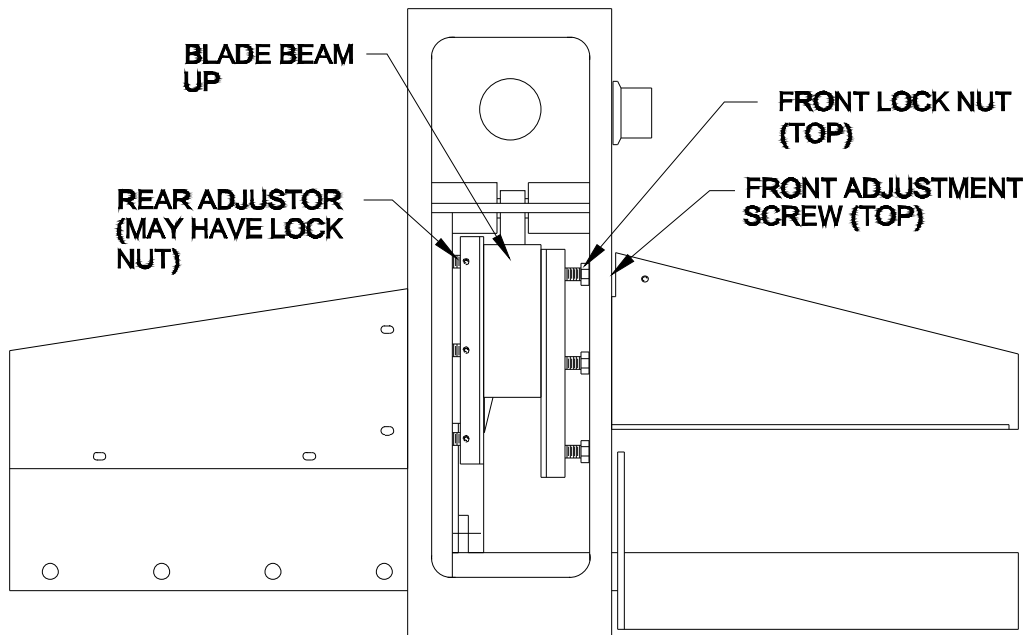

Fig 18
17. Turn the adjuster in the rear counterclockwise and the front adjuster clockwise to move the blade beam closer to the clamp. Make sure that you still have zero (0) clearance between the gibs and blade beam. Adjust both sides if necessary. Fig. 18.